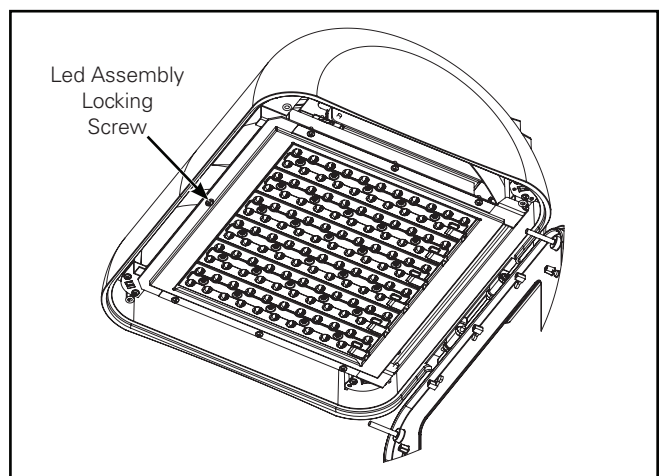
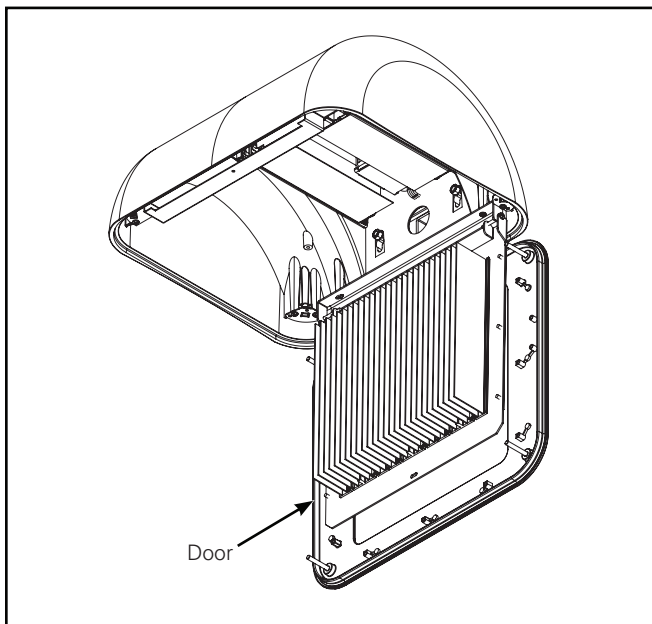

Figure 8.
Figure 9.
6. Unscrew the #10-24 locking screw to disengage and pivot the LED assembly out of the way. (Figure 8. and Figure 9.)